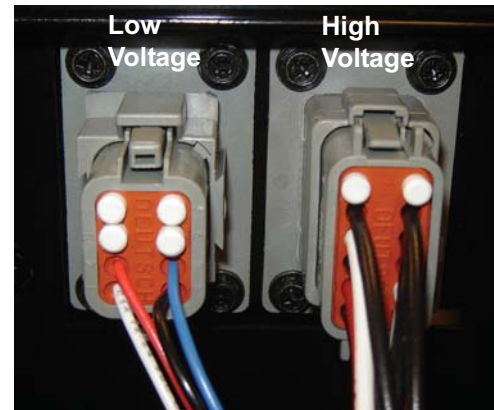

Figure 5.7 Deutsch Plugs
4. Unplug the low and high voltage Harness Connectors (Deutsch plugs) from the terminal box. (figure 5.7) \*